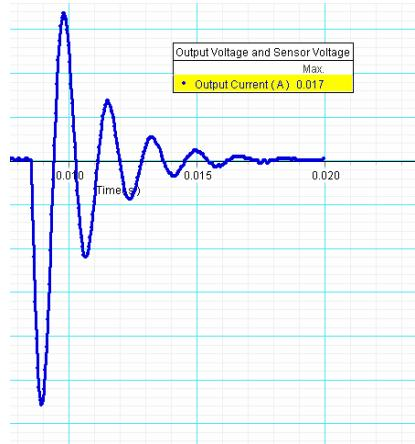

Figure 1 Exponential decay of current oscillations in a typical RLC circuit
In this experiment, the internal resistance R_L of the inductor is the only resistance. In such cases, when the resistance and inductance are “lumped,” a circuit diagram similar to Figure 1 is used for clarity; for our purposes, we will use the “total resistance” $R_T = R_L$.
where $\gamma = R_T / 2L$, $\omega^2 = \frac{1}{LC} - \frac{R_T^2}{4L^2}$ (see the 8.02 *Course Notes*, **Section 11.6** for a derivation). A plot of $i(t)$ for a typical underdamped circuit is shown in Figure 1.
- Delete the previous data runs. Repeat the above procedure to record the current and voltages for this *RLC* circuit. Your current as a function of time graph should resemble Figure 1.